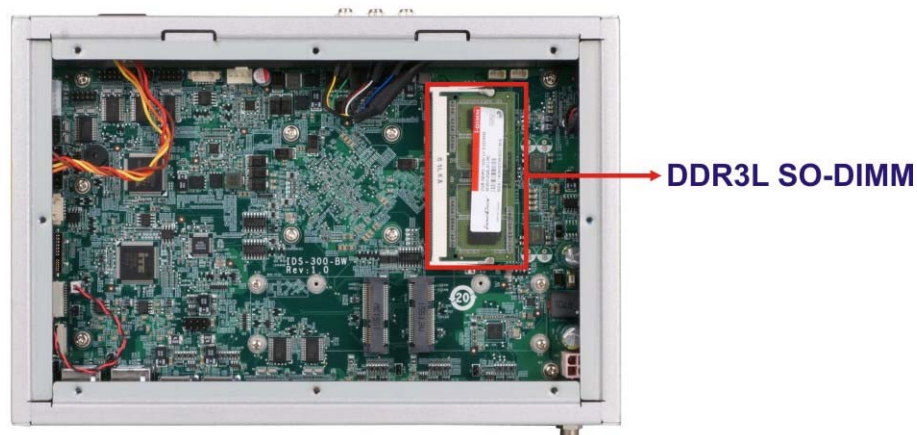

Figure 5-2: SO-DIMM Location
Step 2: Locate the SO-DIMM inside the bottom panel (**Figure 5-2**).